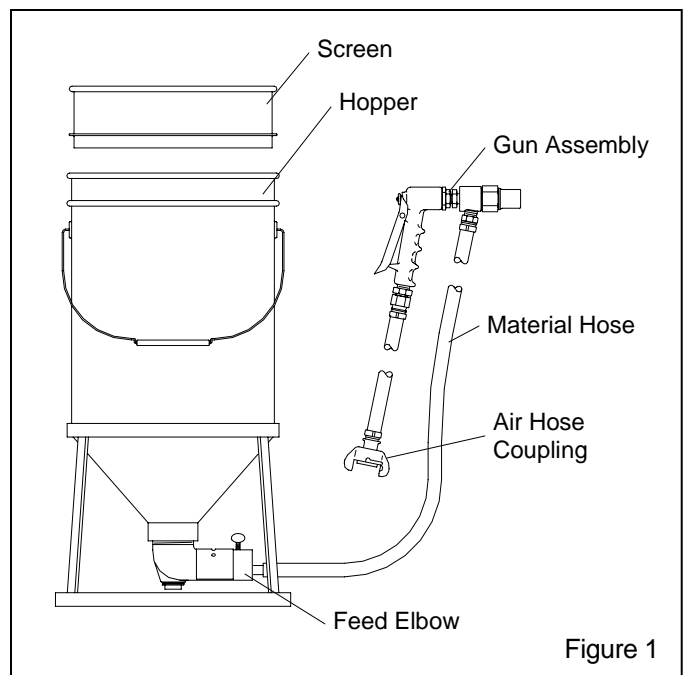

Figure 1
1.4.1.1 The components of the SG-300 suction gun system are shown in Figure 1.